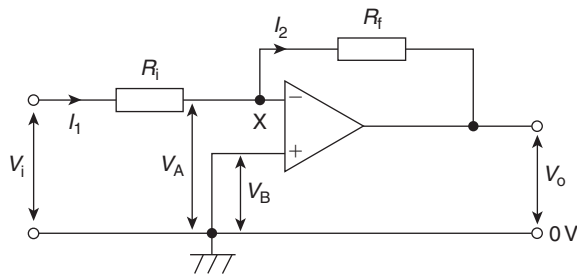
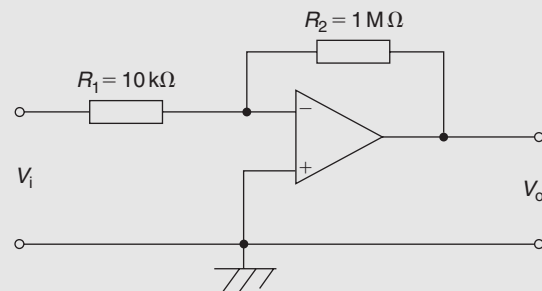

Figure 19.5
Figure 19.6
Operational amplifiers nearly always use **negative feedback**, obtained by feeding back some, or all, of the output to the inverting (–) input (as shown in Fig. 19.5 in the next section). The feedback produces an output voltage that opposes the one from which it is taken. This reduces the new output of the amplifier and the resulting closed-loop gain A is then less than the open-loop gain A_o . However, as a result, a wider range of voltages can be applied to the input for amplification. As long as $A_o \gg A$, negative feedback gives:
The basic circuit for an inverting amplifier is shown in Fig. 19.5 where the input voltage V_i (a.c. or d.c.) to be amplified is applied via resistor R_i to the inverting ($-$) terminal; the output voltage V_o is therefore in anti-phase with the input. The non-inverting ($+$) terminal is held at 0 V. Negative feedback is provided by the feedback resistor, R_f , feeding back a certain fraction of the output voltage to the inverting terminal.
- the inputs are both at the same potential if the op amp is not saturated, i.e. $V_A = V_B$ in Fig. 19.5
In Fig. 19.5, $V_B = 0$, hence $V_A = 0$ and point X is called a **virtual earth**. Thus,
Problem 4. In the inverting amplifier of Fig. 19.5, $R_i = 1 \text{ k}\Omega$ and $R_f = 2 \text{ k}\Omega$. Determine the output voltage when the input voltage is: (a) +0.4 V, (b) -1.2 V
Problem 5. The op amp shown in Fig. 19.6 has an input bias current of 100 nA at 20°C. Calculate (a) the voltage gain and (b) the output offset voltage due to the input bias current. (c) How can the effect of input bias current be minimized?
Comparing Fig. 19.6 with Fig. 19.5 gives $R_i = 10 \text{ k}\Omega$ and $R_f = 1 \text{ M}\Omega$
- (c) The effect of input bias current can be minimized by ensuring that both inputs 'see' the same driving resistance. This means that **a resistance of value of 9.9 kΩ (from part (b)) should be placed between the non-inverting (+) terminal and earth** in Fig. 19.6
With reference to Fig. 19.5, and from equation (5),
4. In the inverting amplifier of Fig. 19.5 (on page 306), $R_i = 1.5 \text{ k}\Omega$ and $R_f = 2.5 \text{ k}\Omega$. Determine the output voltage when the input voltage is: (a) +0.6 V, (b) -0.9 V